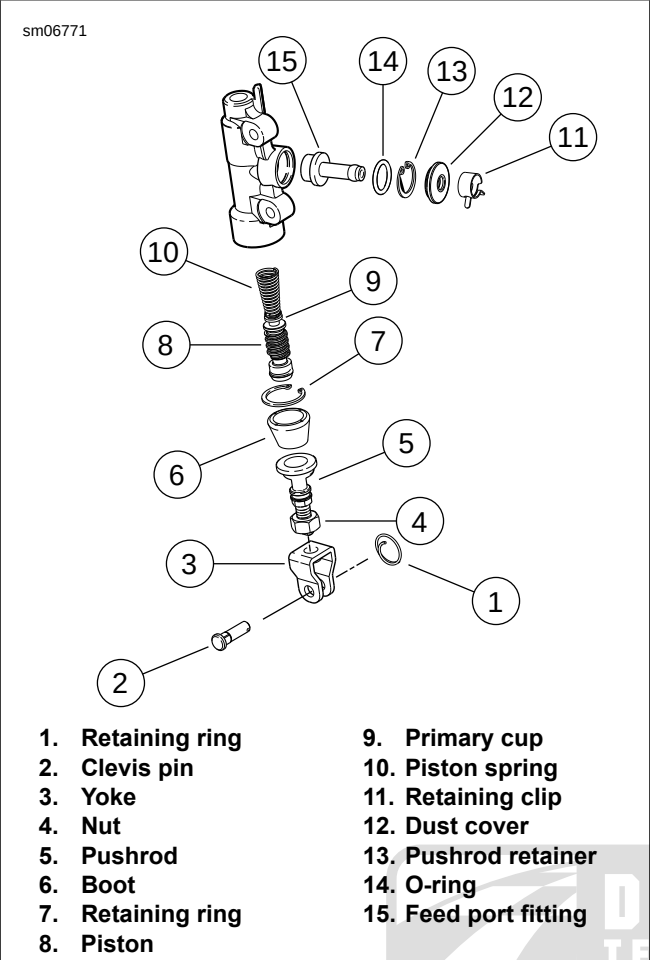

Figure 2-93. Rear Brake Master Cylinder
- See Figure 2-93. Remove nut (4) from pushrod (5).
- Remove and discard boot (6).
1. See Figure 2-93. Coat **new** O-ring (14) with DOT 4 BRAKE FLUID. Install O-ring and feed port fitting (15) into feed port on master cylinder body. Secure with **new** retaining ring (13). Verify that retaining ring is fully seated in groove.
2. Slide dust cover (12) onto feed port fitting and press into place in master cylinder feed port.
8. See Figure 2-93. Temporarily thread nut (4) onto pushrod (5) several turns to protect pushrod threads.
9. Insert pushrod into master cylinder body. Press down on pushrod to compress piston spring (10). Slide pushrod retainer down into master cylinder bore and hold in place.
10. Secure pushrod assembly with **new** retaining ring (7). Verify that retaining ring is fully seated in groove. Remove nut (4) from pushrod.
11. Apply approximately 0.1 g of G40M BRAKE GREASE around groove in boot collar nut. Carefully slide boot (6) down onto pushrod and into end of master cylinder bore. Press lip of boot down around groove in boot collar nut.
12. Thread nut (4) onto pushrod (5), several turns past flats.
13. Thread yoke (3) onto pushrod, at least 2-3 turns past flats.